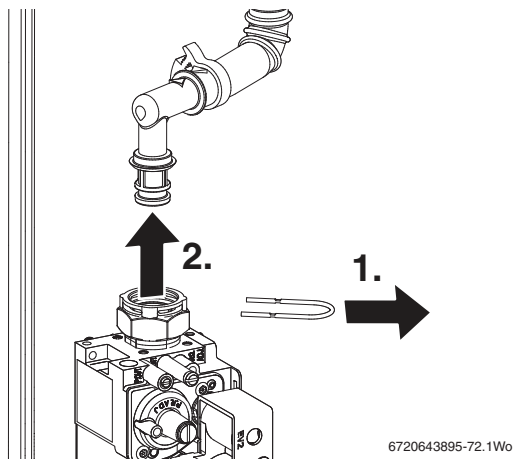

Fig. 92 Gas valve upper connection
Refer to figure 92
- ▶ Remove wire clip from gas valve outlet then pull gas pipe free from the gas valve (see figure 92).